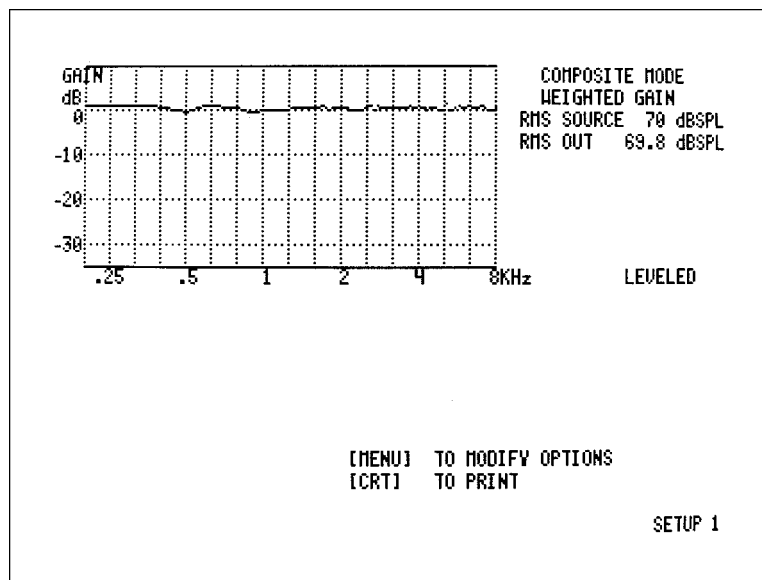

Figure 4.1B—Sound chamber leveled
4. After a few seconds, the video monitor will display a graph (Fig. 4.1B) with a straight line across at 0 dB, indicating that the chamber has been leveled.